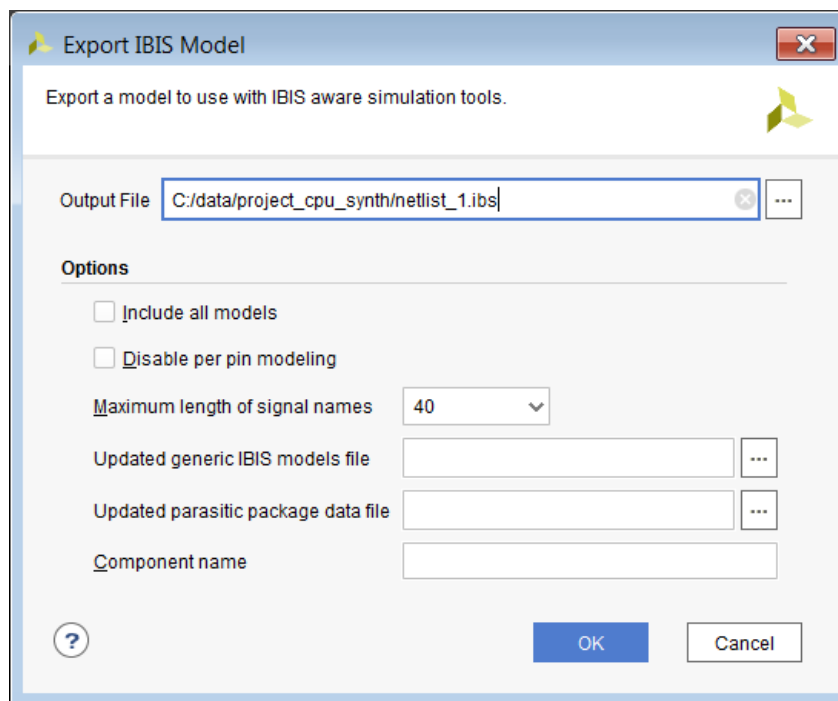

Figure 7-2: Export IBIS Model Dialog Box
2. In the Export IBIS Model dialog box (Figure 7-2), set the following options, and click **OK**: